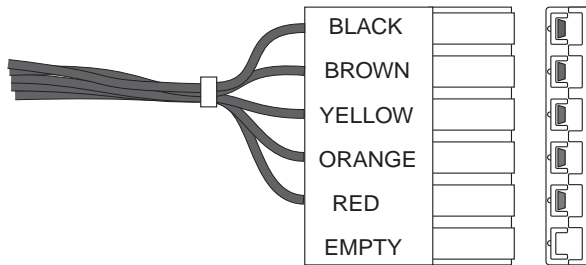

Figure 58. Six Pin Connector Wire Colors
13. Connect the meter test leads across points A and B as shown in Table 15 and compare to the specified value. See Figure 58 for pin locations.